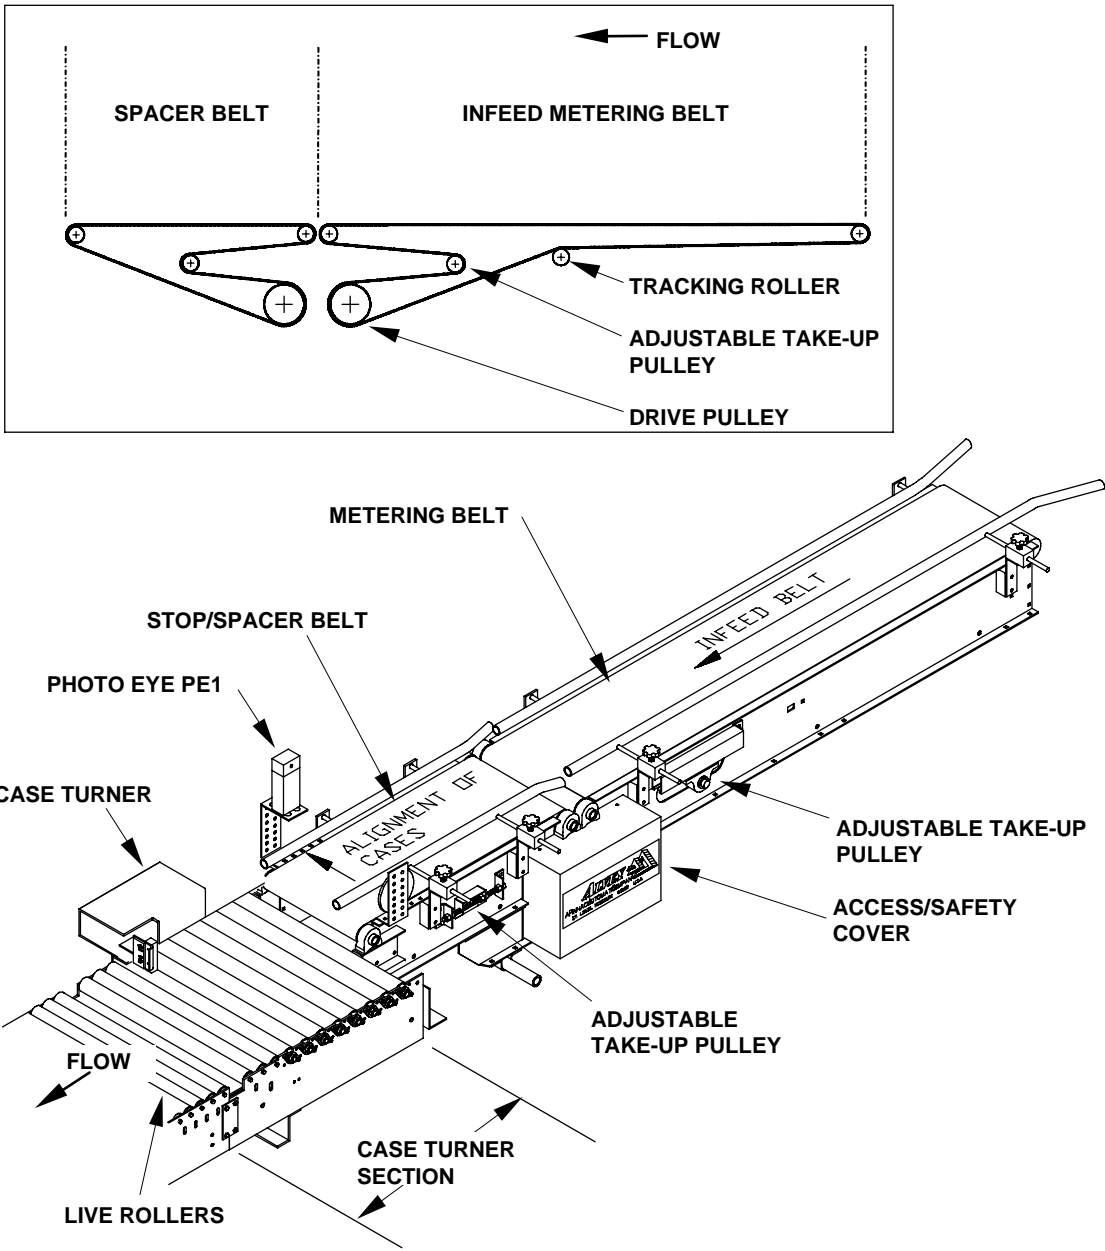

Figure 4-3: Infeed/Spacer Belt Case Conveyor
The exact arrangement of the infeed case conveyor system can vary from one machine to another. The infeed/spacer belt conveyor is either a two (2) or three (3) section belt conveyor depending on your particular machine. (See Figure 4-3) While length and type will vary with each machine and factory layout, the infeed/spacer belt performs the same basic functions:
2. To create a space between cases as they move onto the live rollers which allows the cases to be counted. The spacing process occurs when cases on the longer, slower section called the Metering Belt reach the faster section of the belt, called the Spacer Belt. (See Figure 4-3)